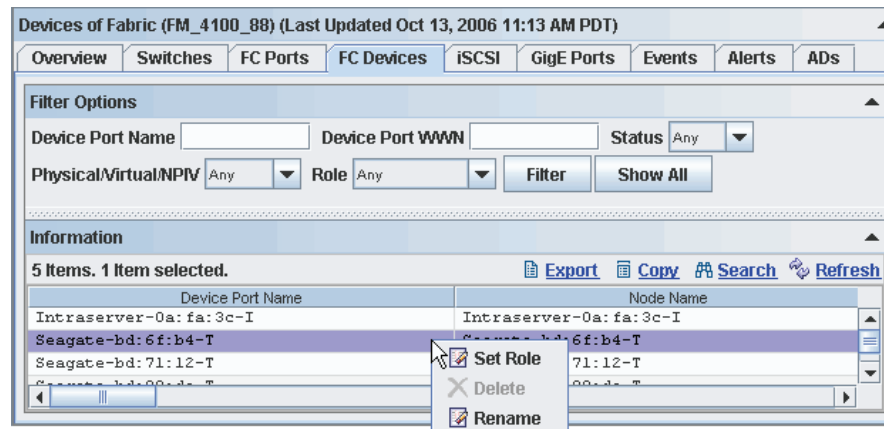

Figure 4-8 Renaming a Device Port
3. Right-click the device you want to rename and select **Rename** from the context menu (see Figure 4-8).